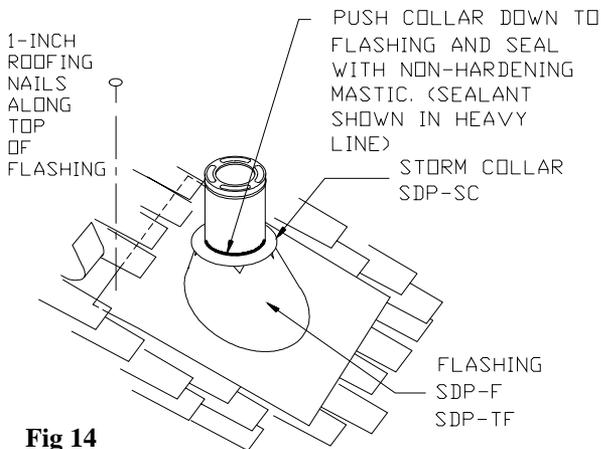
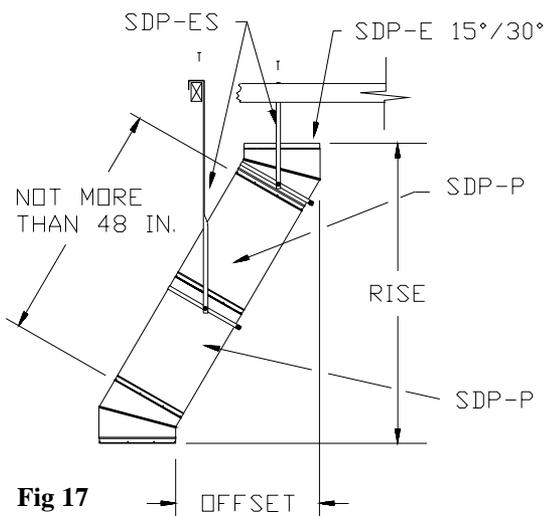

Fig 14
Fig 17
is maintained all around. Install the upper edge of the **Flashing** under the roofing. Nail to the roof along the upper edge and to 4 inches below the upper edge on each side with 1-inch roofing nails. Do not nail the lower edge of the **Flashing**, or the lower half of the sides. (Figure 14). Seal all nail heads with a non-hardening waterproof mastic sealant. On flat or tarred and graveled roofs, nail and seal the **Flat Roof Flashing** to the roof on all sides with roofing compound. If the chimney in the attic area is enclosed, **Ventilated Flashing** must be used. **Ventilated Flashing** may be identified by the indented ribs around the circumference of the top opening. Do not put screws through the **Flashing** into the **Chimney Pipe**.
10. Finish Top: Apply a non-hardening waterproof mastic (sealant) around the chimney at the point where the **Storm Collar** will meet the chimney above the **Flashing**, and also along the vertical seam of the chimney pipe, which is exposed to the weather. (Figures 14 and 15). Slide the **Storm Collar** down over the chimney to the top of the **Flashing**. Tighten and seal the **Storm Collar** against the mastic (sealant). After installing sufficient **Chimney Sections** to meet the height requirement, (Figure 1), snap the **Chimney Cap** onto the top of the chimney. The **Chimney Cap** can be removed for chimney cleaning as described in the Chimney Maintenance section of the instructions. Use an **Extended Roof Bracket** if the chimney extends more than 4 feet above the roof. (Figures 17, and 18 in the **Extended Roof**
Section below, and align it for the offset. Refer to Table 3 to determine the required offset length and attach an appropriate length (or lengths) of **Chimney Section(s)** above the **Elbow**. Do not exceed the maximum lengths between the **Elbows** specified in Table 3. Attach the second **Elbow** above the **Chimney Section** to complete the offset. (Figure 17). **2. Secure Offset:** Place the **Elbow Strap's** band around the angled portion of the top **Elbow**, then tighten the nut and bolt until the clamp is firm. Wrap the **Elbow Strap** end over an adjacent joist or rafter and secure it with at least two 8-penny nails. Do not add more **Chimney Sections** until the **Elbows** are supported. Be sure that the chimney remains vertical. If the total length of the **Chimney Sections** between the two **El-**